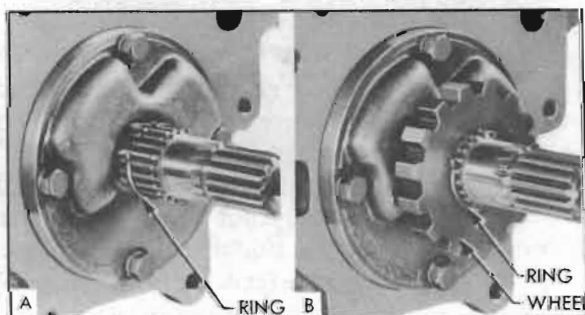

Figure 4-135—Installing Parking Lock Ratchet Wheel
1. Install a retaining ring in the forward groove in output shaft, install ratchet wheel, then install retaining ring in rearward groove in output shaft. See figure 4-135.